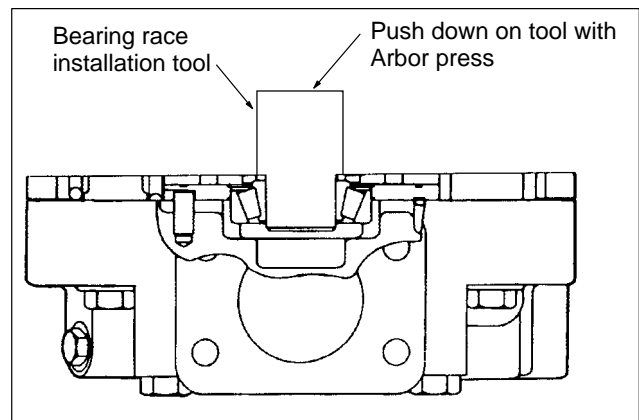

Figure 27: Installation of Bearing Race into Valve Block
3. If bearing race was removed from housing (51) install a new bearing race into housing with an arbor press. Make sure the bearing race is face up to accommodate the matching roller bearing. Press the bearing race until it rests at bottom of housing. Use the bearing race tool as shown in Figure 27. After the bearing race is installed, apply a liberal amount of petroleum jelly to the matching roller bearing. Install the roller bearing into the bearing race.
4. Apply a thin coat of clean hydraulic fluid to limiter plate (35), spacers (38) and piston/shoe S/A (36 and 37). Align
If bearing race was removed from valve block, install a new bearing race into valve block. **DO NOT** reuse bearing races with new rollers. Refer to Figure 27 for instructions.